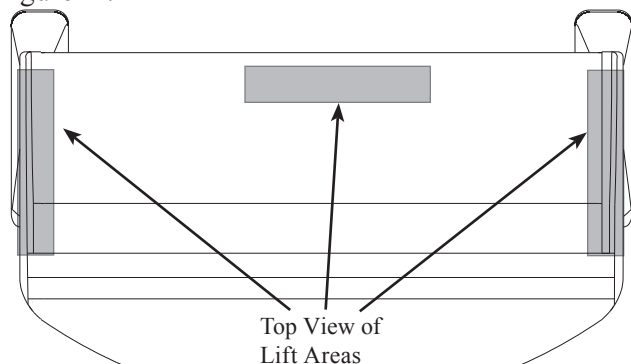

Figure 11
7. With three persons, lift up on the sides and center rear of the Low Frequency Enclosure part of the Loudspeaker. Place the Loudspeaker in the final location. Refer to figure 11.